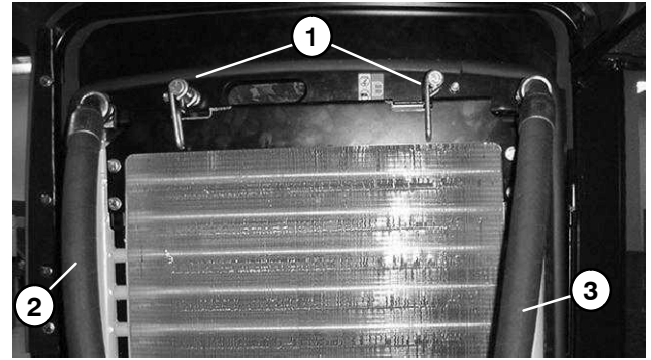

Figure 101
3. Remove oil cooler using Figures 101, 102, and 103 as guides.
1. Install oil cooler using Figures 101, 102, and 103 as guides.